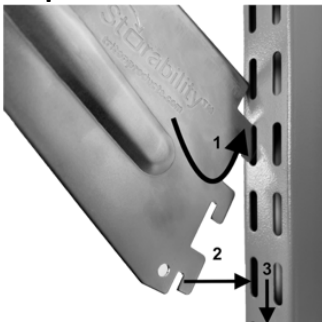

Fig 6.
Step 16. Attach wire shelf brackets (I) on the ends of each wire shelf (H) as shown in Fig 5. and Fig 6. below.